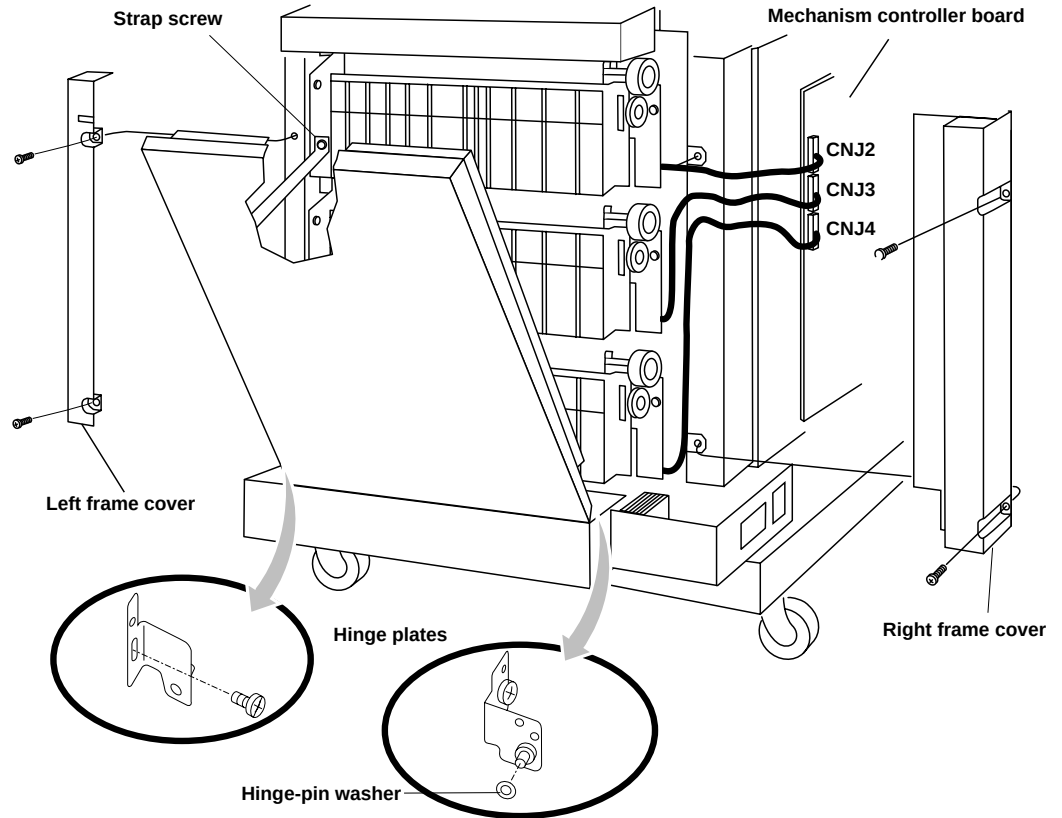

Figure 5-73 Cover Removal
- Step 4** Remove the two screws holding the cover on the left frame-support column see Figure 5-73).
- Step 4** Remove the two screws holding the cover on the left frame-support column (see Figure 5-73 on page 5-95.)